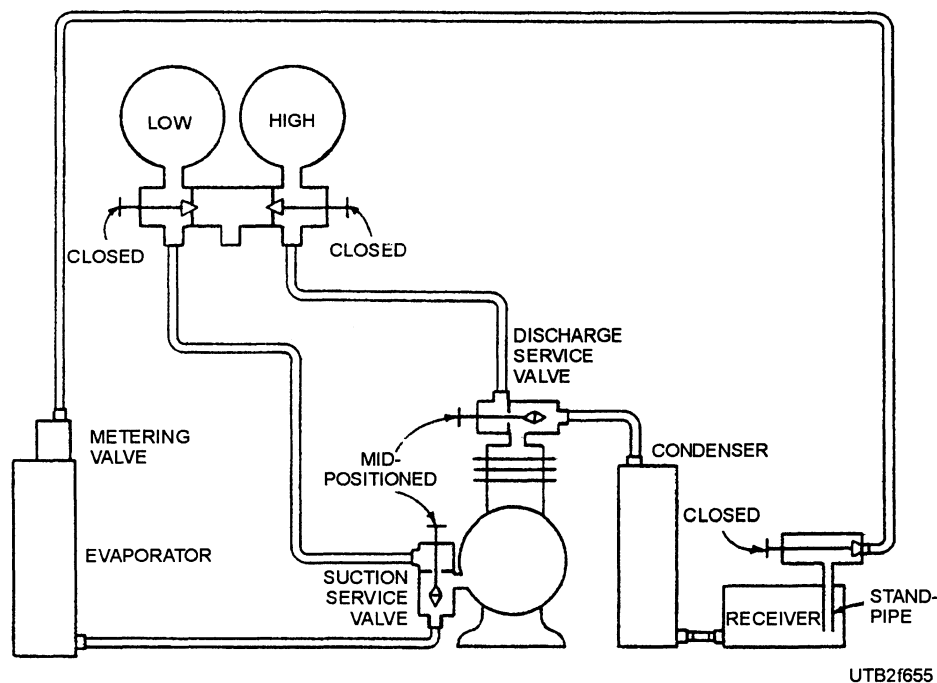

Figure 6-55.—Connections for pumping down a system.
1. Secure electric power to the unit and connect the refrigerant manifold test set, as shown in figure 6-55.
4. Operate the compressor until the pressure on the suction (LO) gauge on the manifold shows a vacuum at 0 to 1 psi.